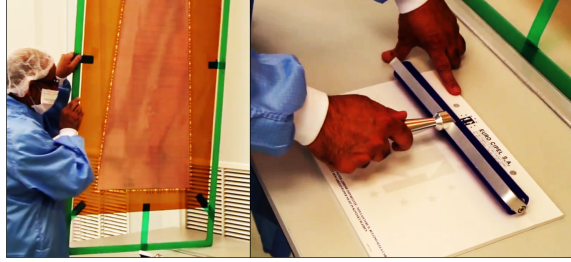

Figure 42: Cleaning of the second side with the static roller.
Step 3: Flip the frame and continue the cleaning on the other side of the GEM foil (Fig. 42). Regularly clean the roller with the sticky mat and proceed the same way for all the foils.